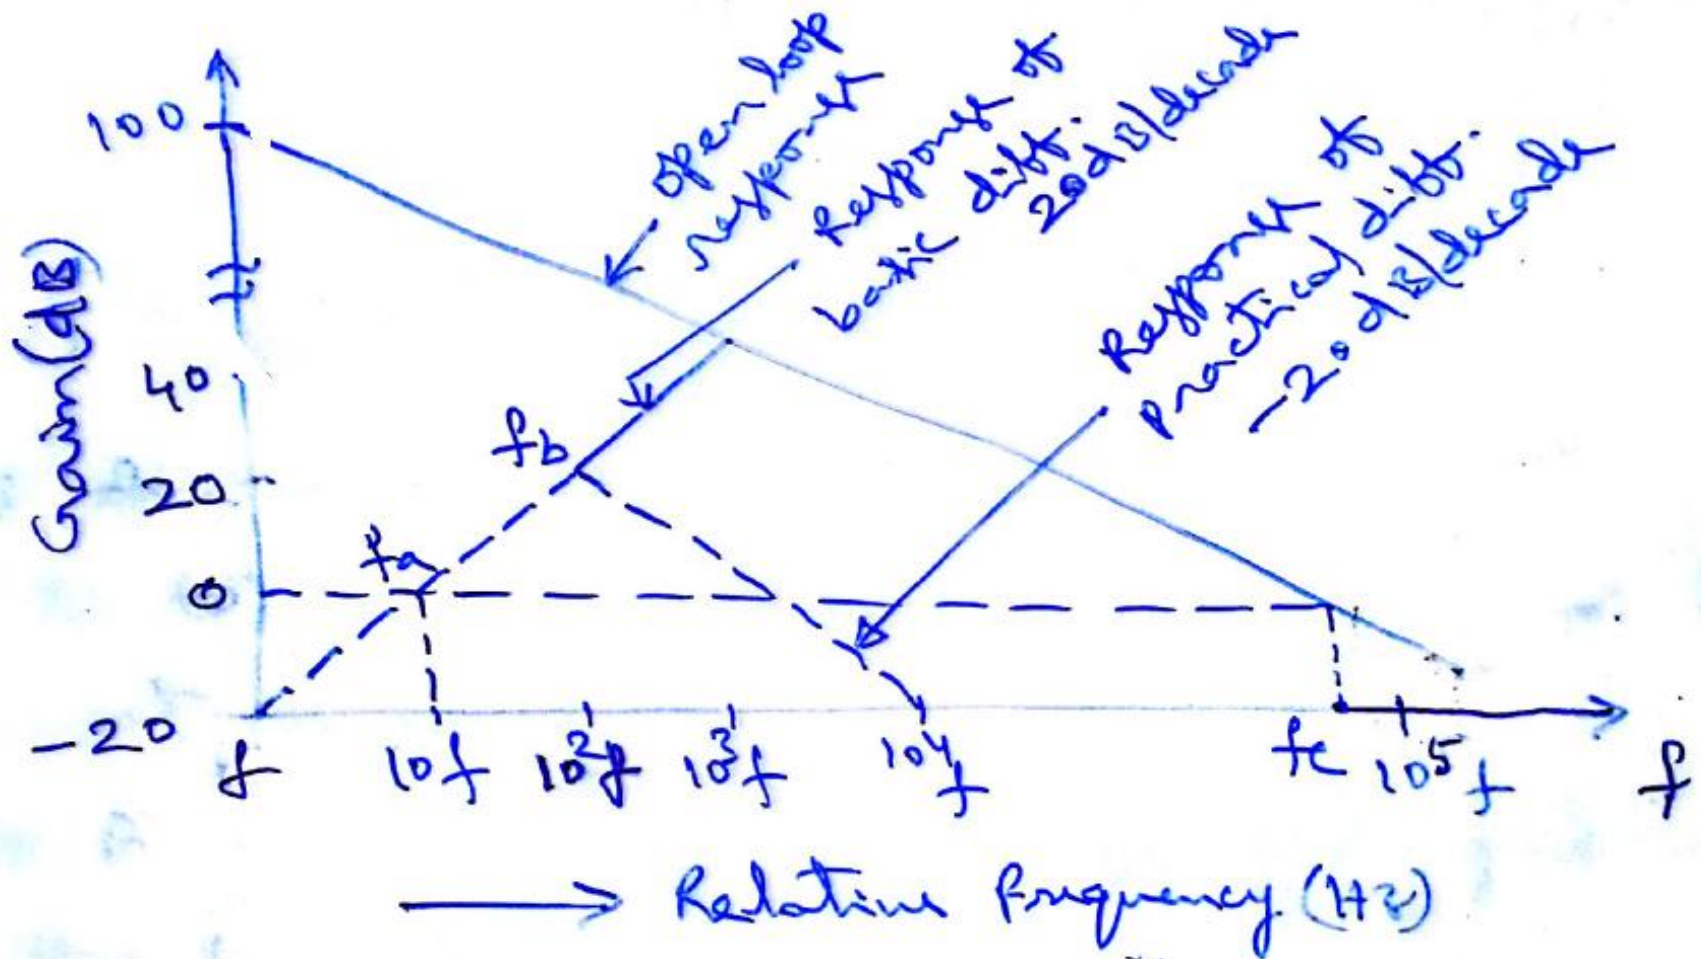

Fig 4.21(c) Frequency Response
- For the basic differentiator of Fig.4.21(a) the frequency response would have increased continuously at the rate of +20dB/decade even beyond f_b causing stability problem at high frequency.